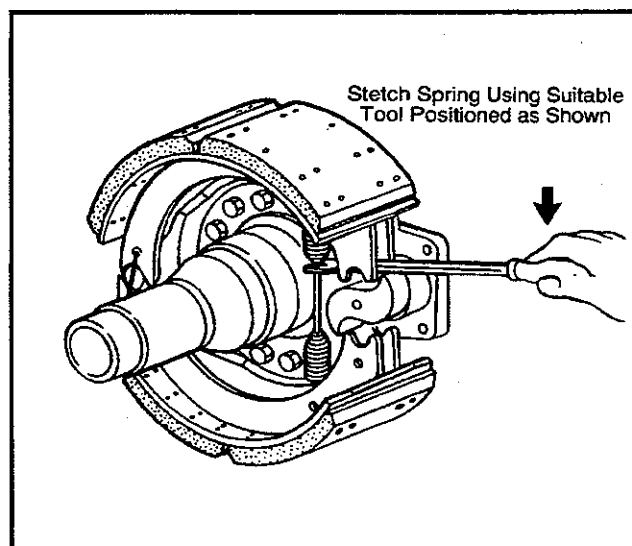

Figure 18—Engage Spring
20. Position a lever or a suitable tool with notch to engage spring rod. (See Figure 18—Engage Spring.)